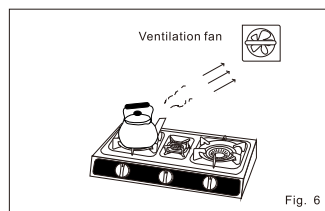

Fig. 6
- Make sure the room is well-ventilated. Never use the gas cooker for long periods of time (over 10 minutes) in a small room or in a closed-off space without the ventilation fan or opening the windows. (Fig. 6)
- Make sure the room is well-ventilated. Never use the gas cooker for long periods of time (over 10minutes) in a small room or in a closed-off space without the ventilation, by the ventilation fan or opening the windows.(Fig. 6)